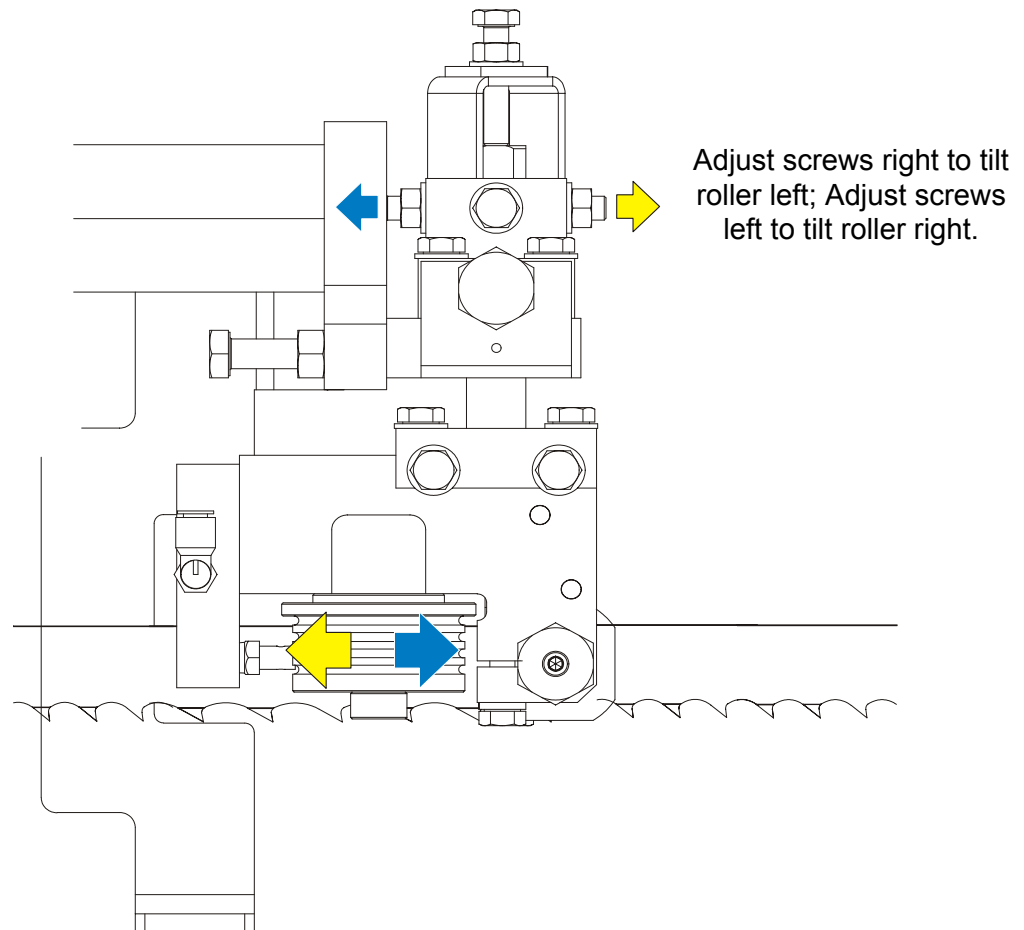

FIG. 5-11
**See Figure 5-11.** Loosen the jam nuts on the horizontal tilt adjustment screws. To tilt the roller left, loosen the right screw and tighten left screw. To tilt the roller right, loosen the left screw and tighten the right screw.